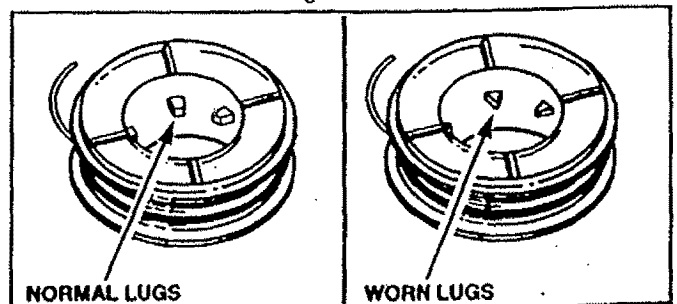

Figure 25
- Clean dirt and debris from all parts. Replace the spool when the square corners on the lugs are rounded off, reduced in size, or broken off. Figure 25.